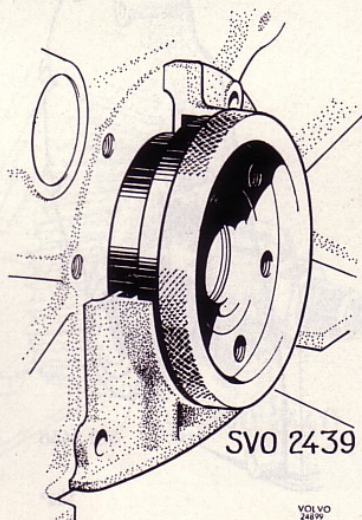

Fig. 42. Centring the rear sealing flange
3. Centre the flange with sleeve SVO 2439, Fig. 42. Turn the sleeve round while tightening the bolts and adjust the position of the flange if the sleeve jams. Check that the flange comes flush against the cylinder block on the underside. After final tightening, check that the sleeve can rotate easily.